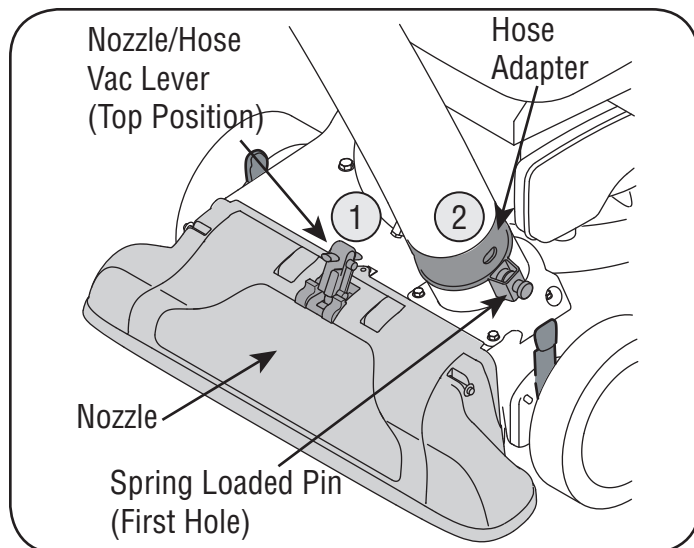

Figure 13
1. Place nozzle/hose vac lever in the top position on the nozzle to vacuum through nozzle. See Figure 13.